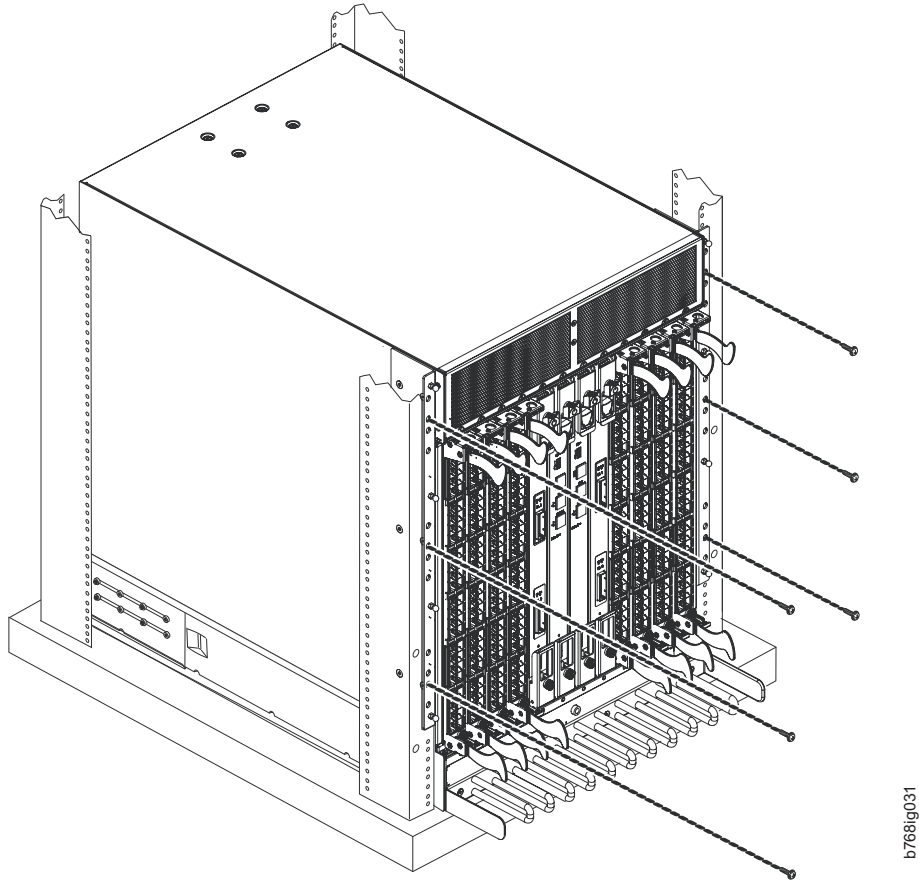

Figure 9. Attaching the port side of the chassis to the cabinet rails
clip nuts (**D**) or retainer nuts (**F**) installed on the rails earlier. Tighten the screws to a torque of 37 cm-kG (32 in-lb). See Figure 9 for the approximate location of the screws.
5. Remove the three 10-32 x 5/8 in. Phillips panhead screws with washers on each side. See Figure 9 on page 26 for the location of the screws.